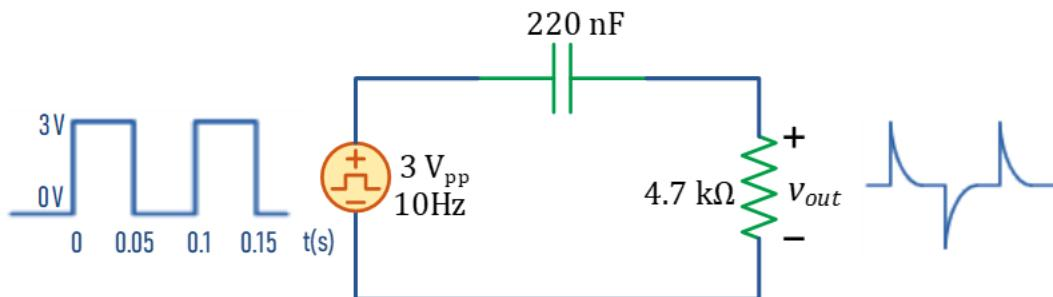

Figure 5.2. RC differentiator used to generate periodic trigger pulses9.
RC circuits behave as differentiators when the output is measured in the resistor, so when you feed a square pulse to an RC differentiator circuit and adjust the time constant, you can get sharp trigger signals at desired time intervals, as shown in Figure 5.2. These trigger signals are commonly used to activate other circuits.
- A.1** For the circuit in Figure 5.2, find  $v_c(t)$  and  $v_{out}(t)$  for  $0 \leq t < 0.05$  s, while the value of the square signal is 3 V. Assume that the circuit has been in operation for a while. Let  $t = 0$  s at an instant when the square signal changes from 0 V to 3 V.